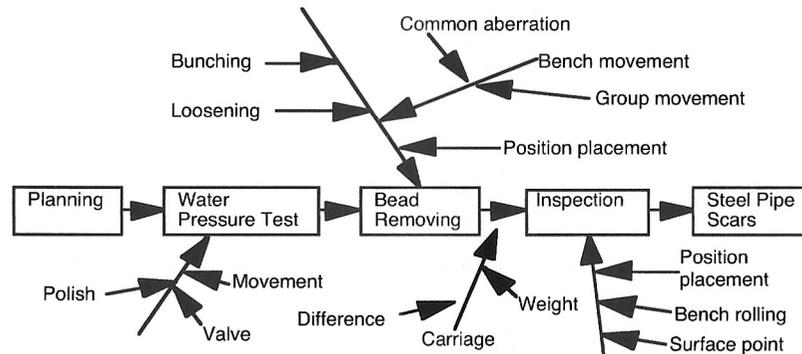

figure 20
*Hint:* Many teams have found that constructing a process classification-style Ishikawa diagram is extremely helpful (figure 20).